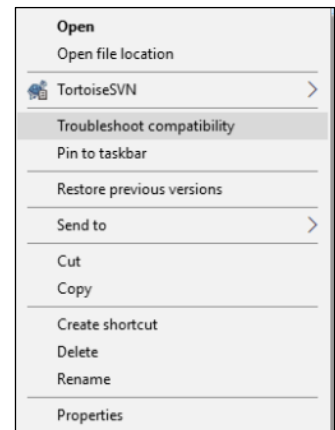

Fig. 2.9
- Right click on the GMPTools program icon and select **Troubleshoot compatibility** (Fig. 2.9).